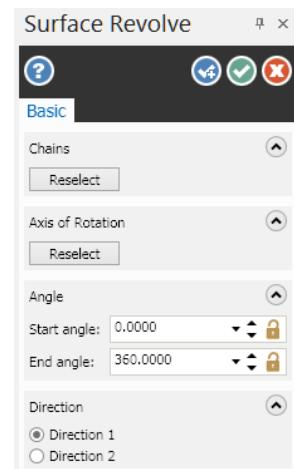

Fig. 20
Step 6. Click OK in the Surface Revolve function panel, Fig. 20.